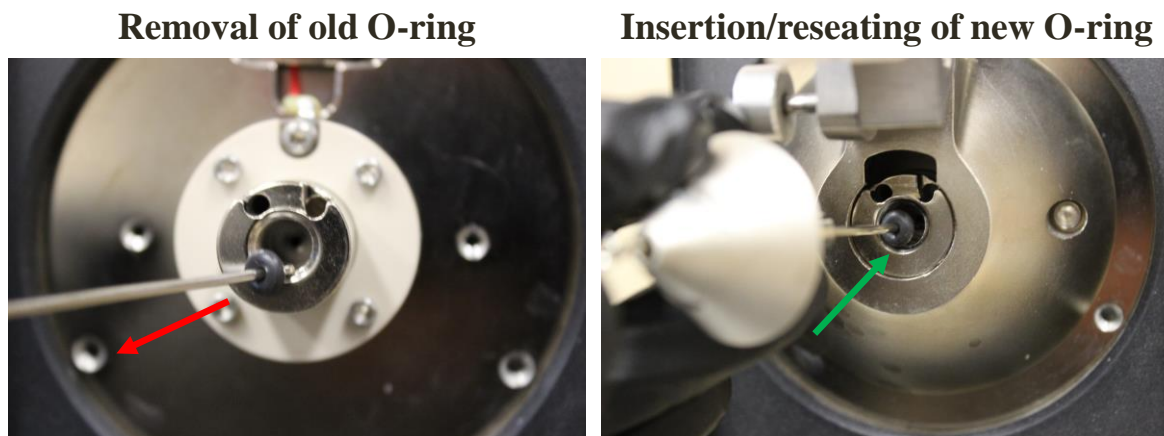

Figure 1.23 – Removal and replacement of inlet capillary O-ring
13. Gently tighten the bolt that holds the red voltage cable (Figure 1.23).
14. Use the inlet capillary that was previously removed in Step 4 to remove the old black o-ring, as depicted below. After removal, use a 7/64 in. Allen wrench to secure the ESI/DESI source back to the AI-MS (Figure 1.23).
15. Use a clean capillary, inserted into the capillary nut, to place a new o-ring into the inlet, as shown above (Figure 1.23). Tighten the nut with a ½ inch crescent wrench until it is snug, but not excessively tight.